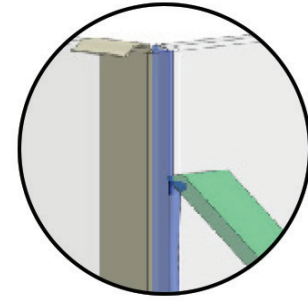

FIG 17.
- Spray channel and glass with slightly soapy water then use spatula provided to clean off excess silicone (FIG 17). Repeat this process 3 times. Use minimal water then wipe off with paper towels.